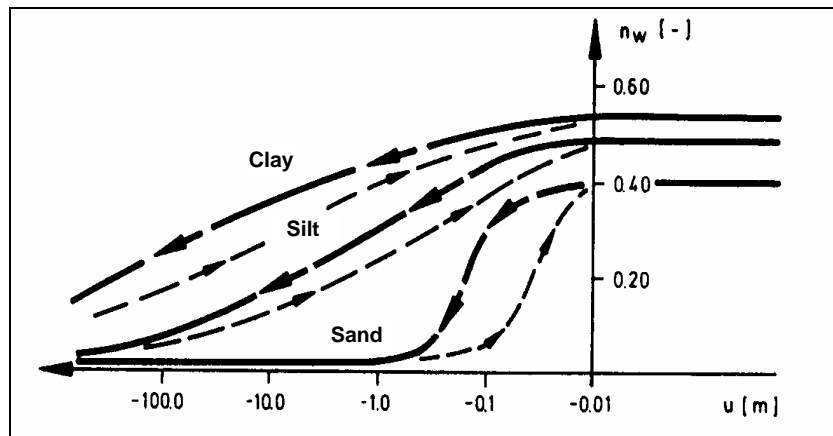

Figure 1 Function curves $n_w = f(u)$
- Using the "**Time BC/Soil properties**" menu item, you can query the soil properties which you defined in **GGU-SS-FLOW2D**. This list is supplemented by information on the specific storage coefficient. In the case of a vertical-plane system, you can define your specific soil curves, using modelling points and according to soil type, by clicking on the "**nw = f(u)**" field (*cf.* Figure 1 in Section 7.2.3).
The value for n_w can also be entered here. The value of n_w gives the volume of water relative to the total volume. It is a dimensionless variable and is a function of the pore water pressure u . Typical function curves for various soil types are shown in Figure 1: